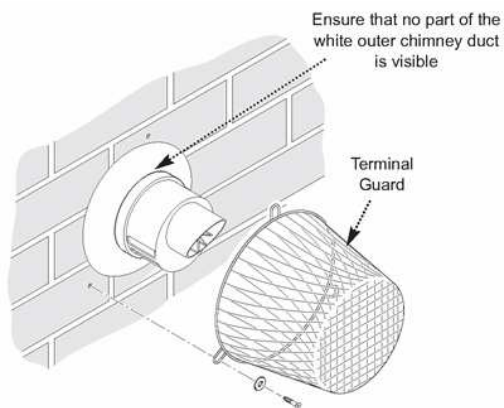

Fig. 15
1. When codes of practice dictate the use of terminal guards (Fig. 15) "Multifit" accessory part no. 720627901 can be used (**NOTE:** This is not compatible with Flue Deflector referred too below).